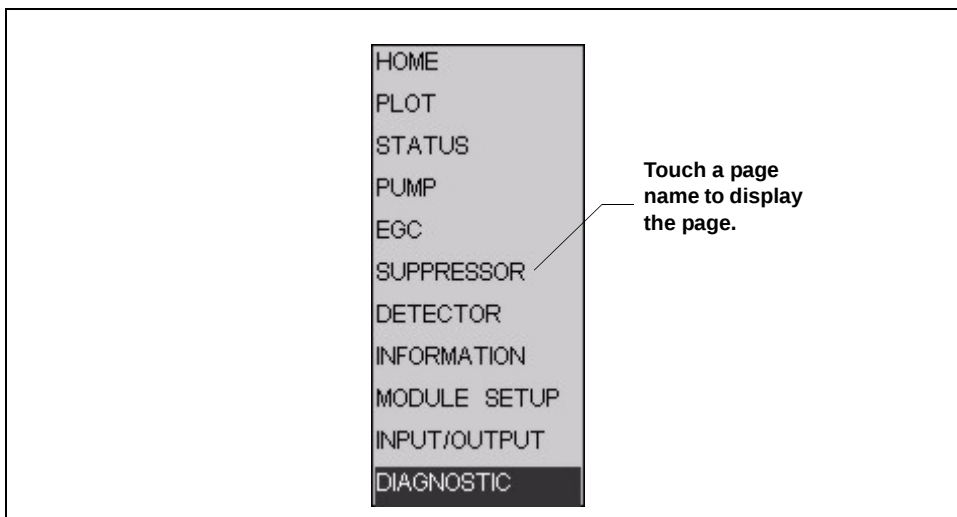

Figure 2-4. ICS-2000 Touch Screen Menu of Pages
- Touching the page name (for example, ) in the bottom right corner opens a menu of pages (see Figure 2-4).